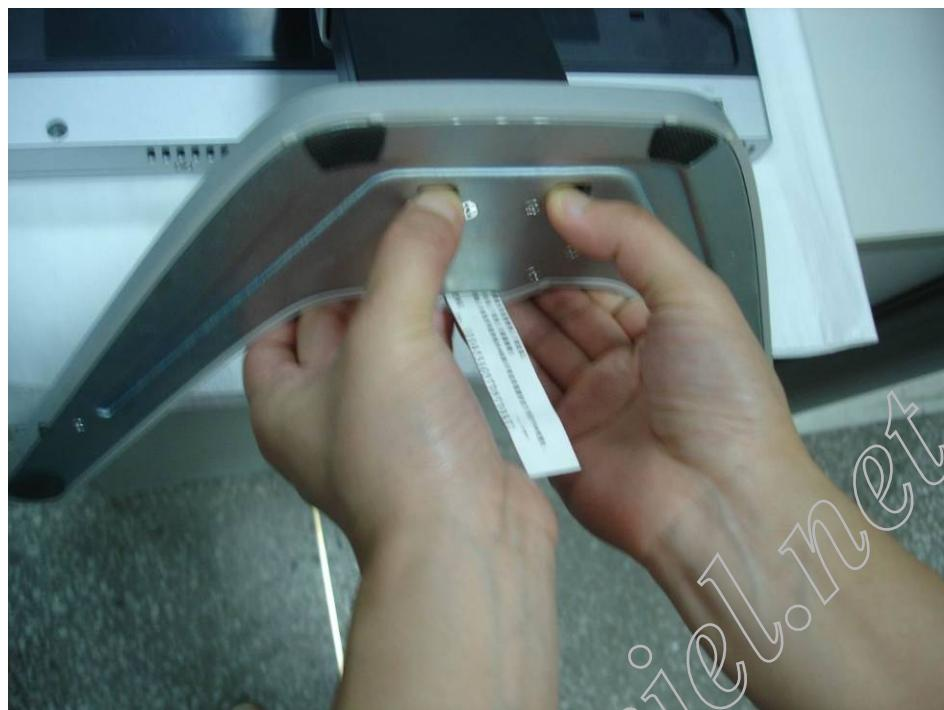

Fig3
Step 3: Put out the base emphatically as Fig 3, then you can disjoin the base from the stand.